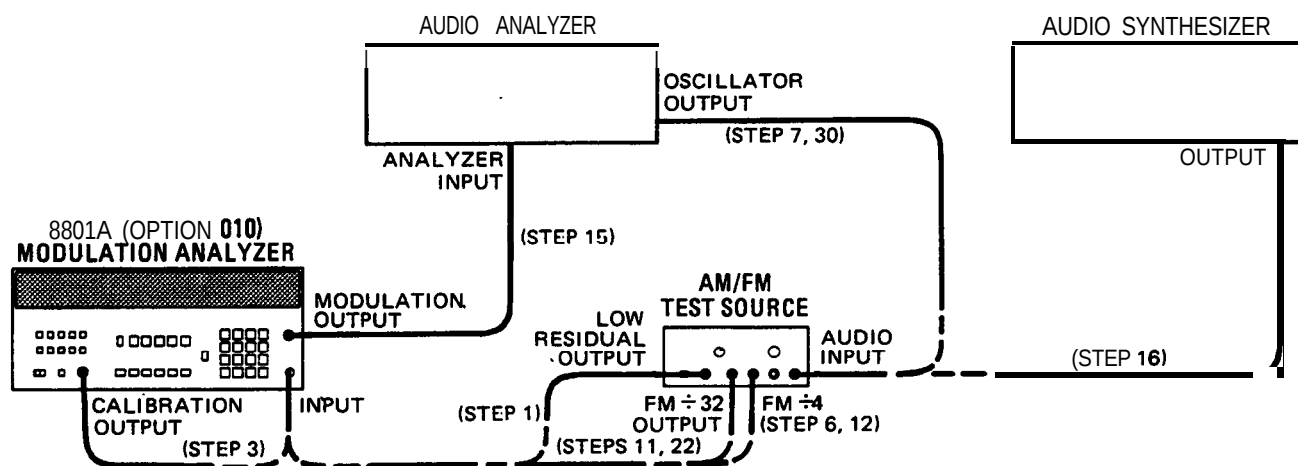

Figure 4-3. FM Performance Test Setup
1. On the AM/FM test source, set the test mode to residual FM. Connect its low-residual (560 MHz) output to the Modulation Analyzer's INPUT. (See figure 4-3.)
3. Connect the Modulation Analyzer's CALIBRATION OUTPUT to the INPUT. (See figure 4-3.)
6. On the AM/FM test source, set the test mode to FM. Connect its FM+4 output to the Modulation Analyzer's INPUT. (See figure 4-3.)
7. Set the audio analyzer's source to 10 **kHz** at 0.5 V. Connect its output to the audio input of the AM/FM test source. (See figure 4-3.)
11. Connect the FM+32 output of the AM/FM test source to the Modulation Analyzer's INPUT without disturbing the AM/FM test source's controls. (See figure 4-3.) Multiply the displayed ratio on the Modulation Analyzer by the calibration factor of step 4. (For example, if the display reads 12.52% REL and the calibration factor of step 4 is **100.4%**, the result is $12.52 \times 100.4 = 12.57\%$ REL.) The result should be between 12.35 and 12.65% REL.
12. Connect the FM+4 output of the AM/FM test source to the Modulation Analyzer's INPUT. (See figure 4-3.)
15. Connect the audio analyzer's input to the Modulation Analyzer's MODULATION OUTPUT. (See figure 4-3.) Set the audio analyzer to measure the distortion on the **100 kHz** signal at the MODULATION OUTPUT (all audio analyzer filters should be off). The distortion should be 0.1% or less (-60 dB or less).
16. Set the audio synthesizer to 10 kHz at +5 dBm. Connect its output to the audio input of the AM/FM test source. (See figure 4-3.) Fine adjust the level for a Modulation Analyzer display of 100 kHz times the calibration factor of step 5. (For example, if the calibration factor of step 5 is 100.4%, set the level for a display of 166.4 kHz.)
22. Connect the **FM+32** output of the AM/FM test source to the Modulation Analyzer's INPUT. (See figure 4-3.)
30. Set the audio analyzer's source to 10 **kHz** at 2 V. Connect its output to the audio input of the AM/FM test source. (See figure 4-3.) Fine adjust the oscillator level for a Modulation Analyzer display of 10 **kHz** peak deviation.